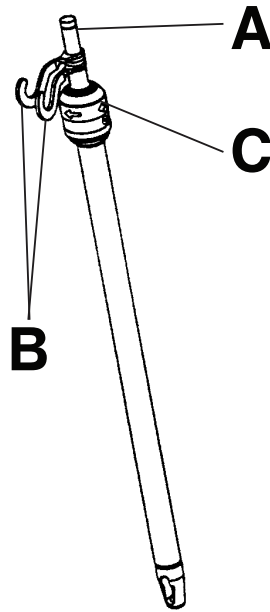

Figure 24 – HAVASU two-stage IV pole
2. To raise the height of the pole, pull up on the telescoping portion (A) of the pole until it locks into place at the fully raised position (Figure 24).
3. Rotate the IV hangers (B) to the desired position and hang the IV bags (Figure 24).
4. To lower the pole, turn the latch (C) clockwise until the telescoping portion (A) lowers into the bottom tube (Figure 24).